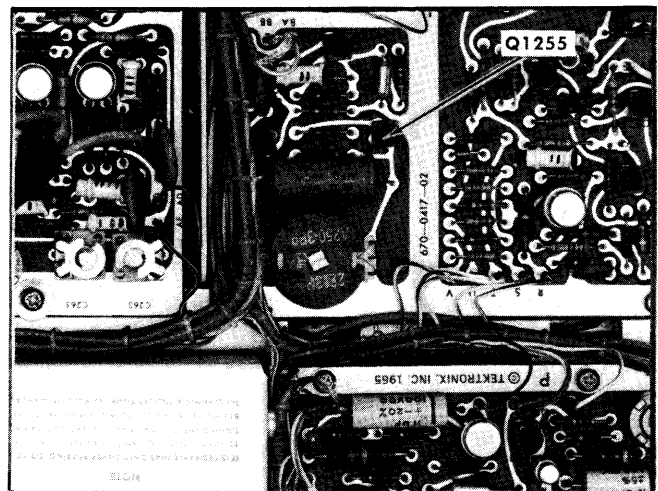

Fig. 5-3. Location of Q1255 (Calibrator section of A Sweep circuit board).
- b. Remove Q1255 (see Fig. 5-3) from the Calibrator section of the A Sweep circuit board.